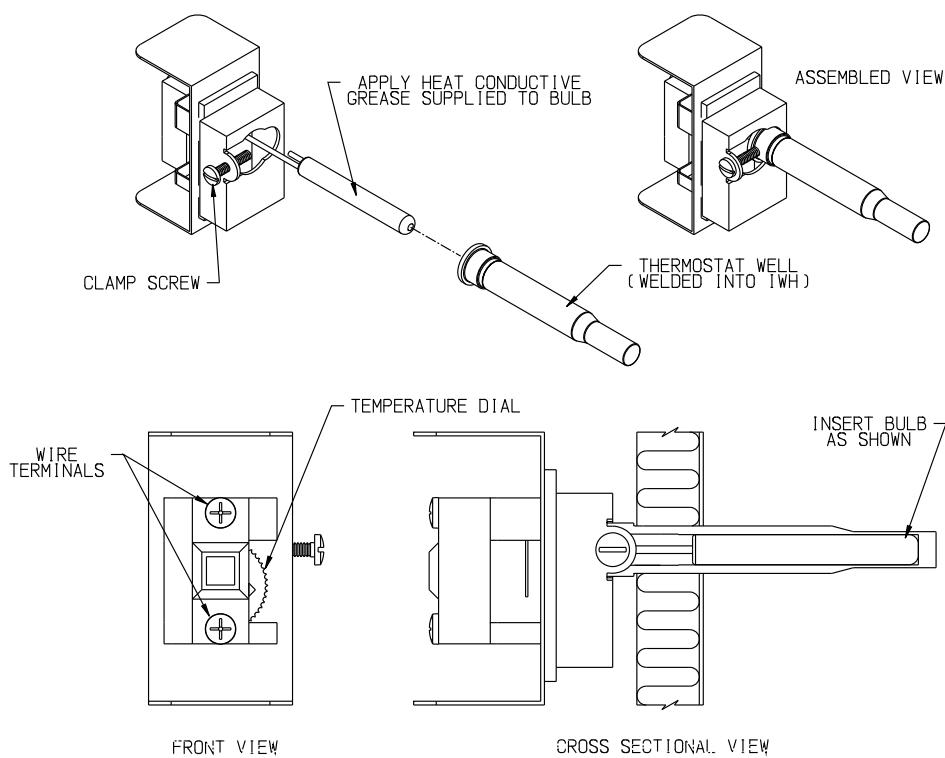

Figure 5.5: Aquastat Installation
1. Temperature Control (required) - This control is provided by the factory and must be installed in the control well location shown in Figure 2.2. Remove the cover and loosen the clamping screw. Apply the silver heat conductive compound supplied to bulb. Insert the capillary bulb so that it is "bottomed out" in the control well as shown in Figure 5.5 and screw the control clamp securely in the well groove at the end of the well. See Section 6 for wiring details and Section 7 for instructions on adjusting the temperature setting.